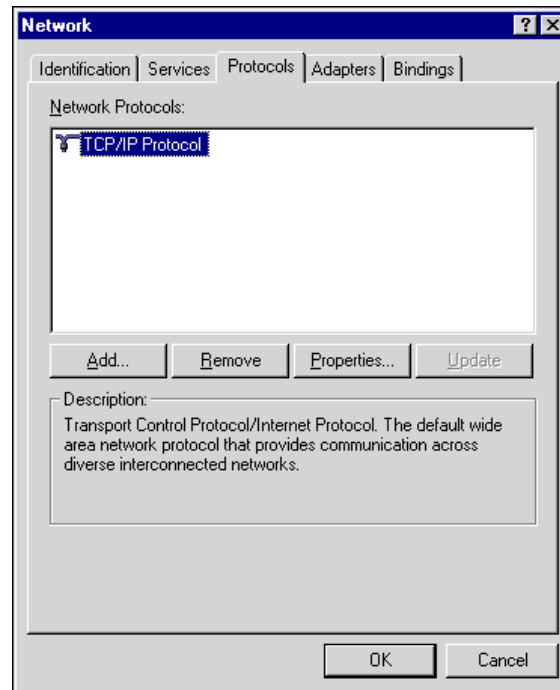

Figure A-1: Windows Network dialog, Protocols tab
- 5 Select the **Protocols** tab (Figure A-1). If TCP/IP Protocol appears in this list, skip steps 6 and 7.